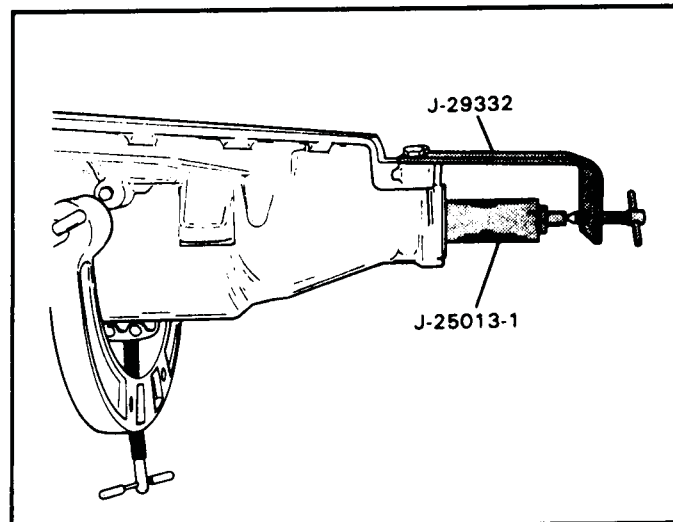

Figure 42
2. Install output shaft support tool as shown in Figure 42, and remove rear end play.